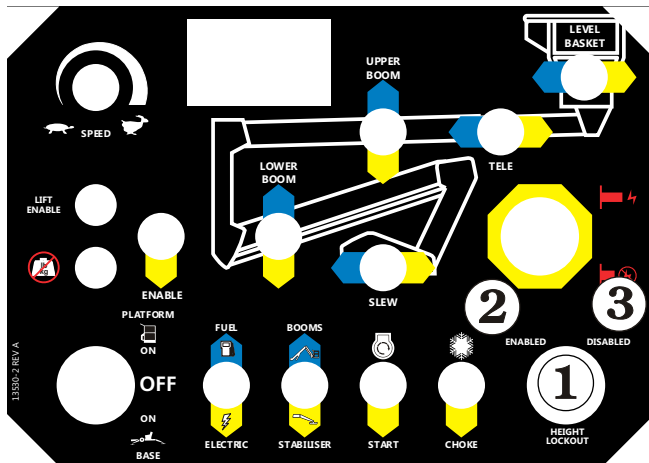

Figure 11.19 - Height Lockout Switch
This switch allows the machine to operate to its full boom height of 11.5m when the switch is in the DISABLED position **③** or to the restricted height of 10.9m when the switch is in the ENABLED position **②** see Figure 11.19.